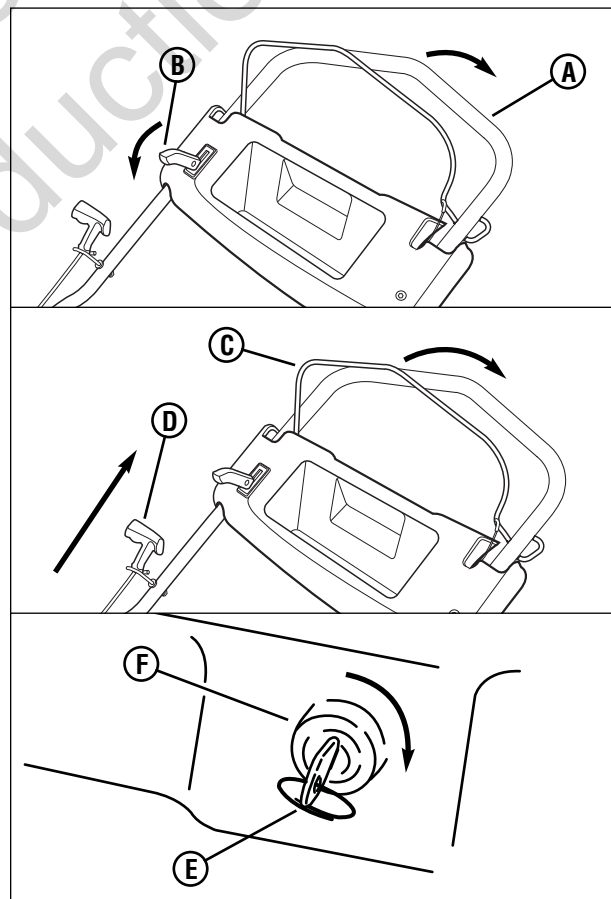

Figure 3: Starting the mower
1. Make sure the drive handle (**A**, **Figure 3**) is pulled fully back, and the drive handle lock lever (**B**) is pushed fully forward in the locked position.